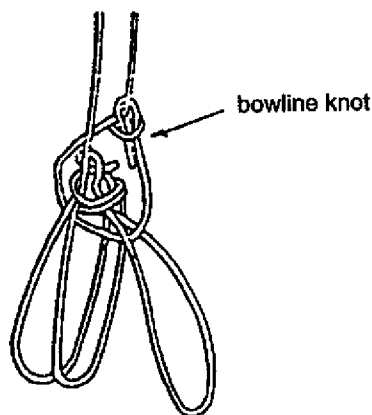

Fig. 7-16
(2) Equipment/Materials
(3) Setup
- c. Form a triple-loop bowline knot at one end of the rescue rope to serve as a sling for the victim. As a reinforcing rope, pass the end of another rope through the three loops and form a simple bowline knot at the position of triple-loop bowline knot. Secure with an overhand knot and use the two ropes together as the rescue rope. (Fig. 7-16)